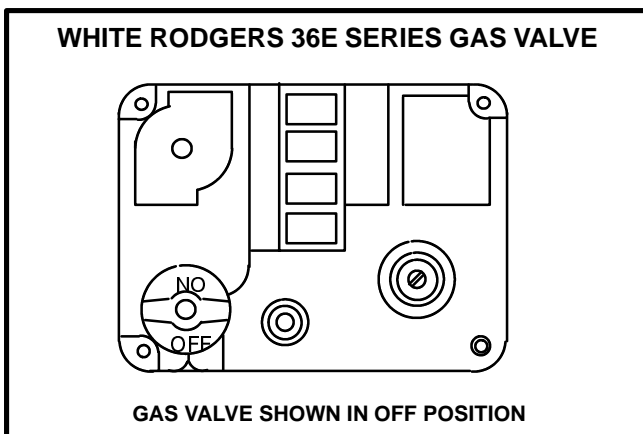

FIGURE 2
- 6 - *White Rodgers 36E Gas Valve* - Turn knob on gas valve 180° either way to **OFF**. See figure 2.